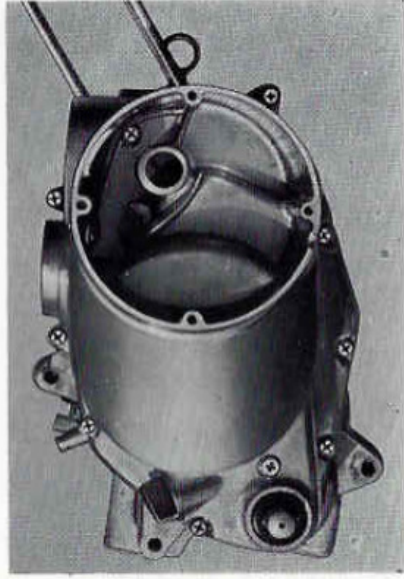

Fig. 8-2-12
12. Remove the **crankcase right cover** by loosening 9 cross head screws. Take off the outer valve sheet "O" ring from the outer valve sheet to keep it from being lost. (Fig. 8-2-12)